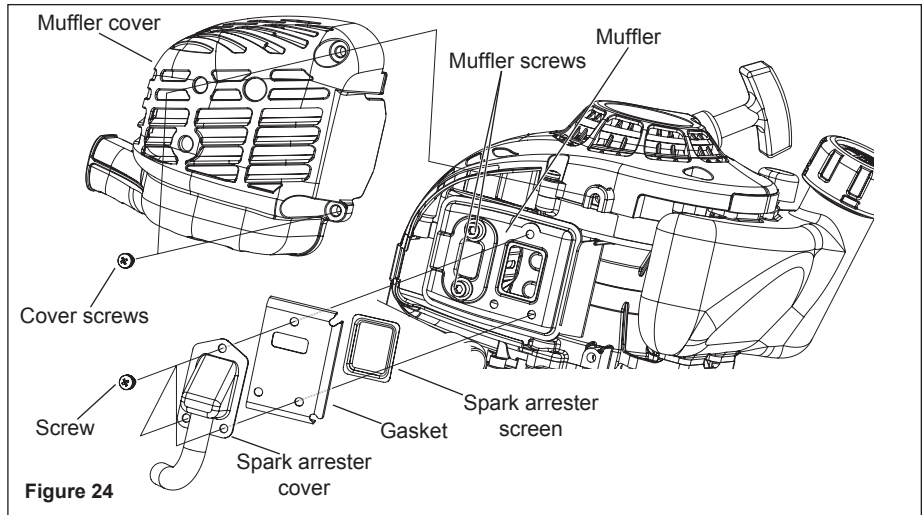

Figure 24
1. Remove the 2 muffler cover screws and the muffler cover. See Figure 24.
2. Remove the 3 screws holding the spark arrester screen, gasket and cover to the muffler. See Figure 24.
3. Remove the 2 muffler screws and the muffler. See Figure 24.